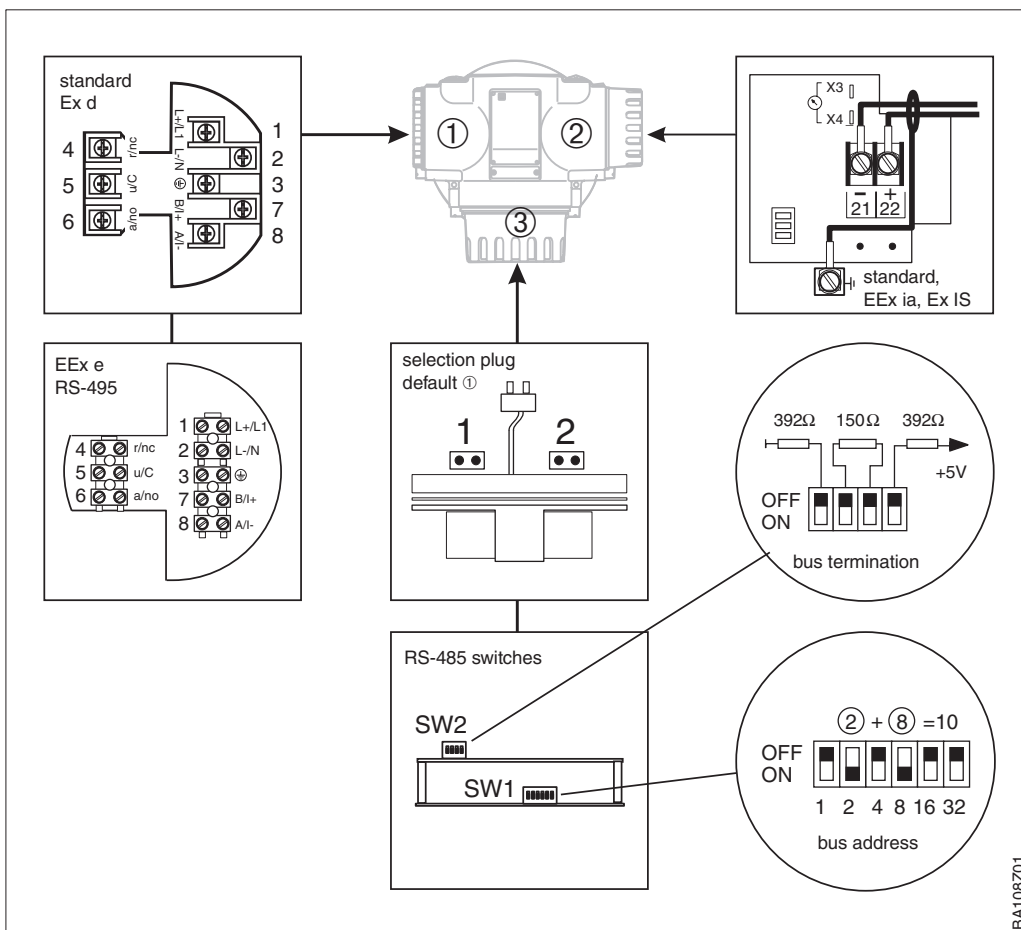

Fig. 3.3 Terminal block designs for the various Micropilot versions – the following combinations are possible:
The terminal block in compartment ① may be of various designs, see Fig. 3.3.
- Normally compartment ① is active (EEx e or Ex d): compartment ② is activated by changing the plug position in the electronics compartment ③. Warning: Ex d!